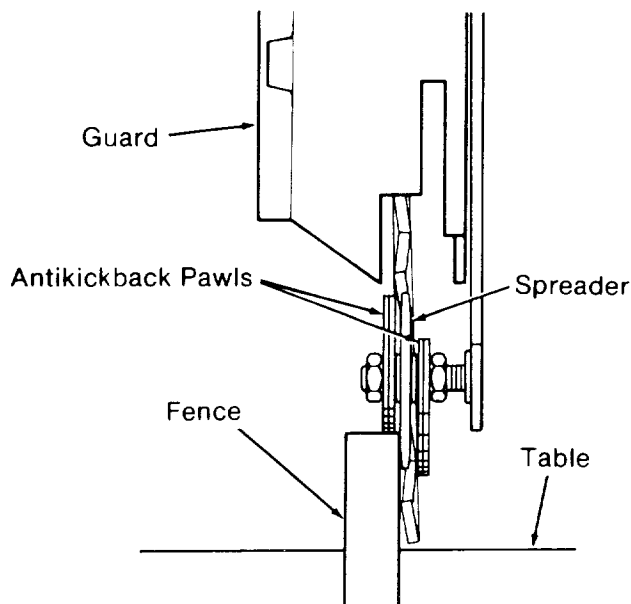

Fig. 86
11. Lower the *spreader* and *antikickback* *pawls* until the *spreader* is against the *fence*, and the *pawls* on one side of the *spreader* are on top of the *fence*. (Figure 86)